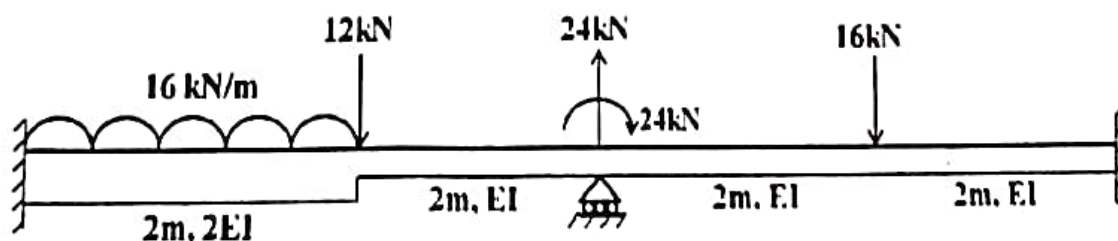

Fig. 6
6. Please analyze the continuous beam shown in Fig. 6 and obtain unknown joint displacements and support reactions. Use computer oriented stiffness method.